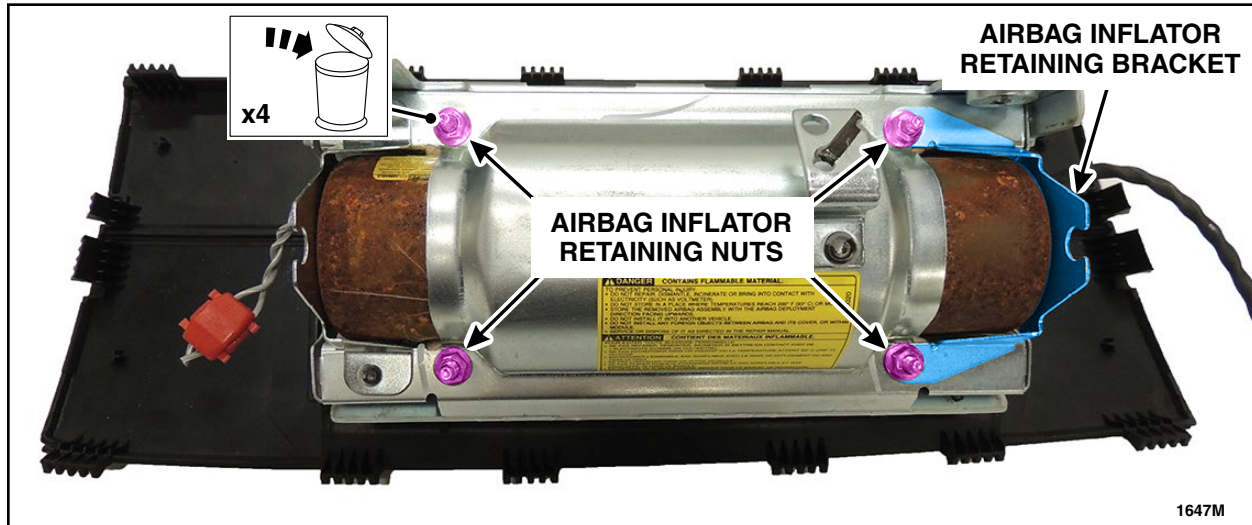

FIGURE 5
- Remove and discard the four passenger airbag inflator retaining bracket nuts and the retaining bracket. See Figure 5.